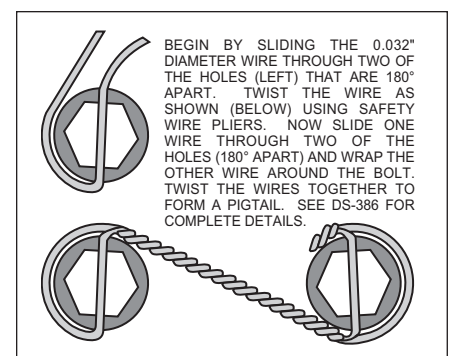

Figure 6. Safety Wire Diagram
- Align the correct hole pattern in the rotor (3) with the stud pattern on the axle flange. **NOTE:** Some OEM and after market axles come with stud sizes larger than 0.50” diameter. Verify stud size and have a qualified machine shop drill the bolt circle of the rotor to the correct stud size, if necessary. Slide the rotor (3) over the wheel studs covering the mounting bracket assembly (1) and against the axle flange face.
- NOTE:** Please reference the caution statement at the beginning of the assembly instructions. **WITH THE BLEED SCREWS POINTING UP**, mount the caliper (4) over the rotor (3) and onto the caliper mounting bracket (1) using lock washers (5) and mounting bolts (6). View the rotor through the top opening of the caliper. The rotor should be aligned in the center of the caliper. If not, adjust the caliper by using 0.032 inch shims (7) by placing them between the caliper mounting bracket (1) and the caliper (4). Apply red *Loctite*® 271 to the mounting bolt threads (6), torque to 30 ft-lb. Safety wire the caliper mounting bolts (6) using standard 0.032 inch diameter stainless steel safety wire as shown in Figure 6. Please refer to Wilwood’s data sheet DS-386 (available at www.wilwood.com/pdf/ds386.pdf) for complete safety wire installation instructions.
- Position the Wilwood disc brake pads (8) into the caliper (4) and fasten with cotter pin (9). Steel backing plate side of brake pad should face the caliper pistons.
- Before final installation of the wheel, install a couple of lug nuts and adjust the parking brake shoes outward (using a drum shoe adjustment tool available at your local auto parts store) while spinning the rotor/hat (3) until a slight drag is felt again the hat/drum.